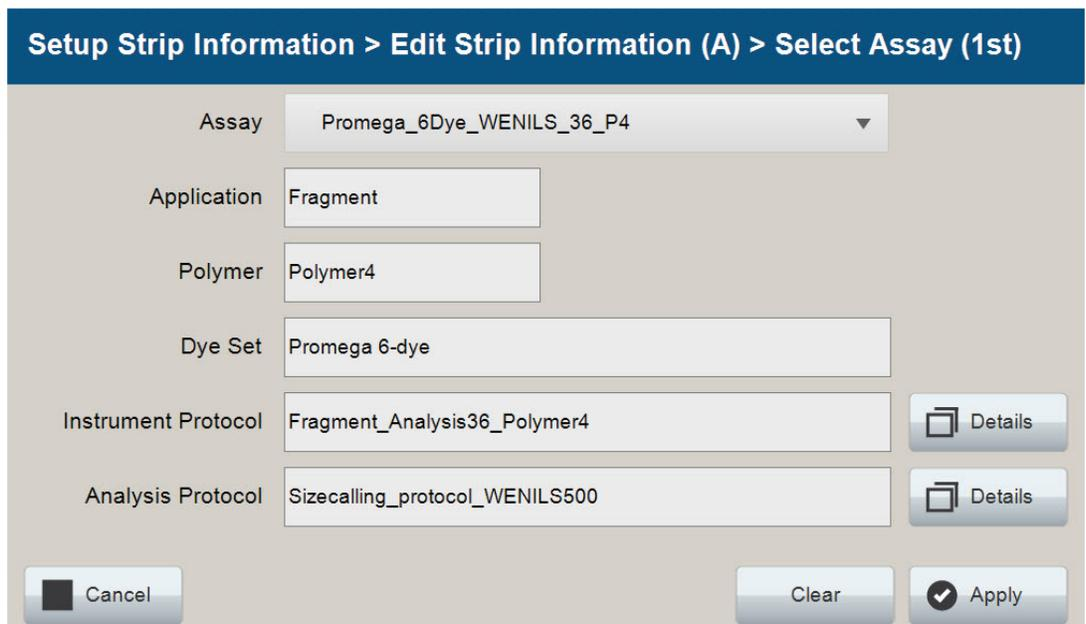

Figure 17. Accessing Instrument and Analysis Protocols on 'Select Assay' window.
8. You can verify the settings of the Instrument and Analysis Protocols associated with the assay chosen by selecting **Details** next to these fields (Figure 17). This will display a window showing the settings in these protocols but will not allow you to edit these settings. Refer to the *Spectrum Compact CE System Operating Manual #TMD058* to edit the Instrument Protocol or Analysis Protocol. When the assay information is confirmed, select **Apply** to return to the 'Edit Strip Information' screen.